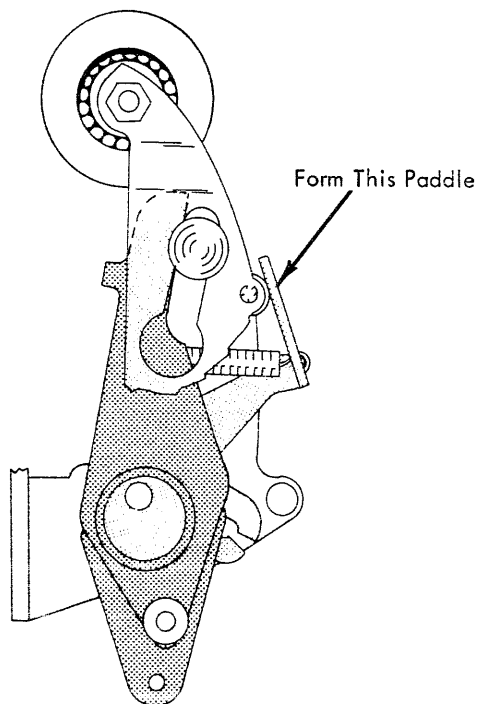

FIGURE 83. Arm Assembly In -3 Position
- 12. Ratio Change Adjustment - With the machine half-cycled to an upper case -3 character, form the paddle on the rotate eccentric arm until the upper case -3 character detents the same as the upper case -5 character. Each time the paddle (Fig. 83) is formed the machine must be recycled under power before observing the detenting of